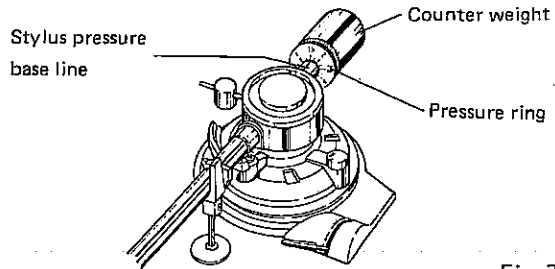

Fig. 7
2. Set the stylus pressure by turning the counter weight to the number recommended for your cartridge (Fig. 7).